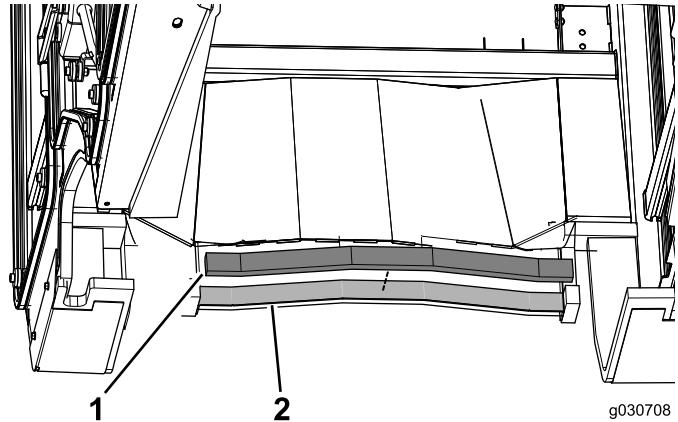

Figure 15
3. Apply the rear foam seal to the back of the cab unit (Figure 15).